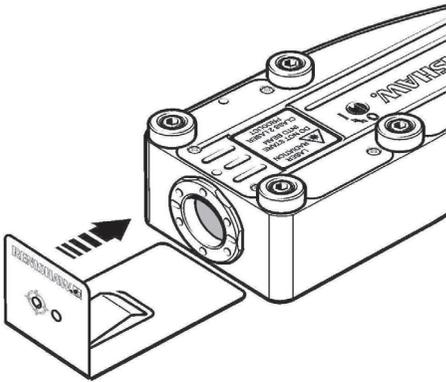

Figure 5: Renishaw alignment target
- Move the mirror to the furthest separation and insert a metal Renishaw alignment target under the RLD10 (Figure 5).